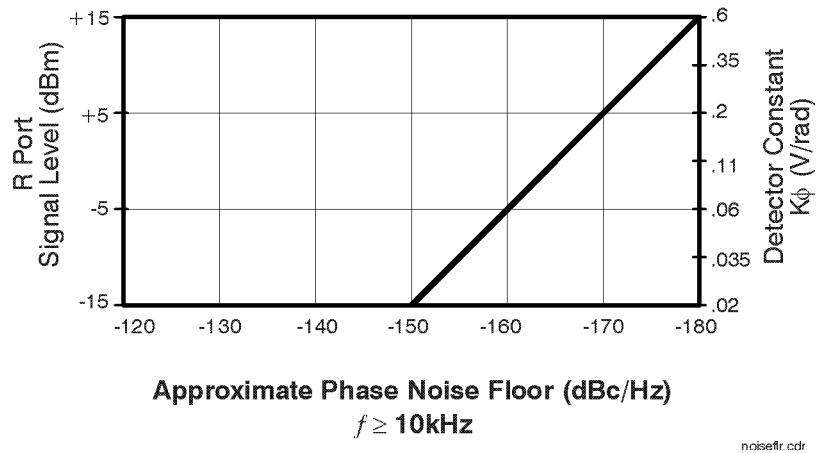

Figure 8-7 Phase Detector Sensitivity
- 3 Locate the power level you measured on the left side of the Phase Detector Sensitivity Graph (Figure 8-7). Now move across the graph at the measured level and find the corresponding Phase Detector constant along the right edge of the graph. This is the value you will enter as the Current Detector Constant when you define your measurement. (Note that the approximate measurement noise floor provided by the Signal Input port level is shown across the bottom of the graph.)